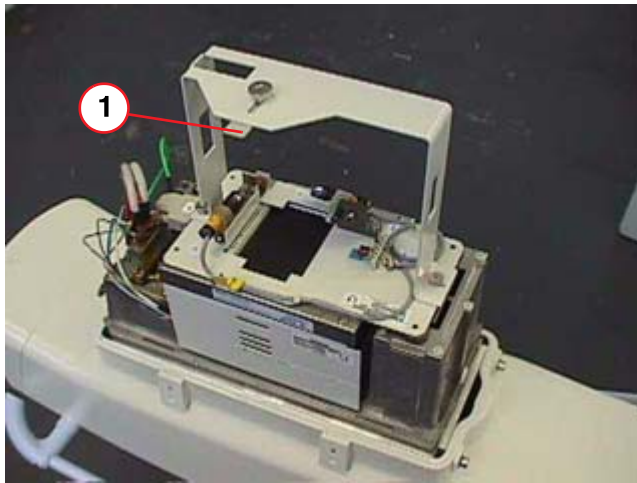

Fig. 3: Adjustment device
- Attach the adjustment device above the laser light localizer as shown in \(1/Fig. 3 / p. 11\).
- The pointer (1/Fig. 3 / p. 11) of the adjustment device and the crosshairs of the I.I. attachment are displayed on the monitor.